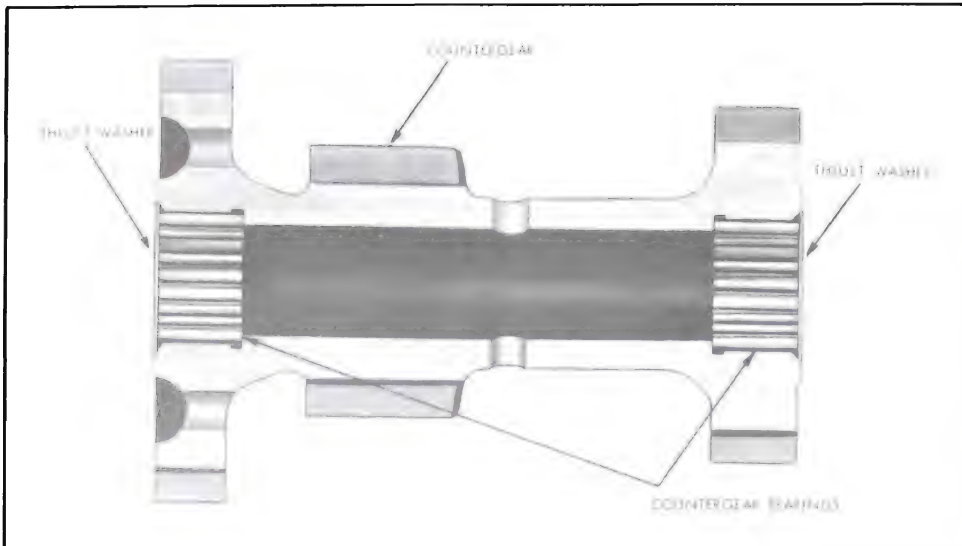

Figure 4-34—Countershaft and Bearings
6. Place some cup grease in the roller bearing area on each end of countershaft. Insert Tool J-5777 in countershaft. Install 25 roller bearings in each end. Apply grease to bearing thrust washers; place one of each at each end of countershaft. See Figure 4-34.